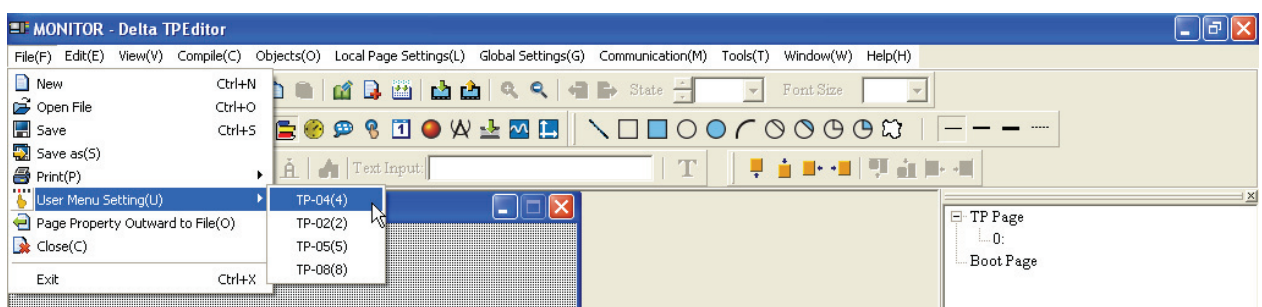
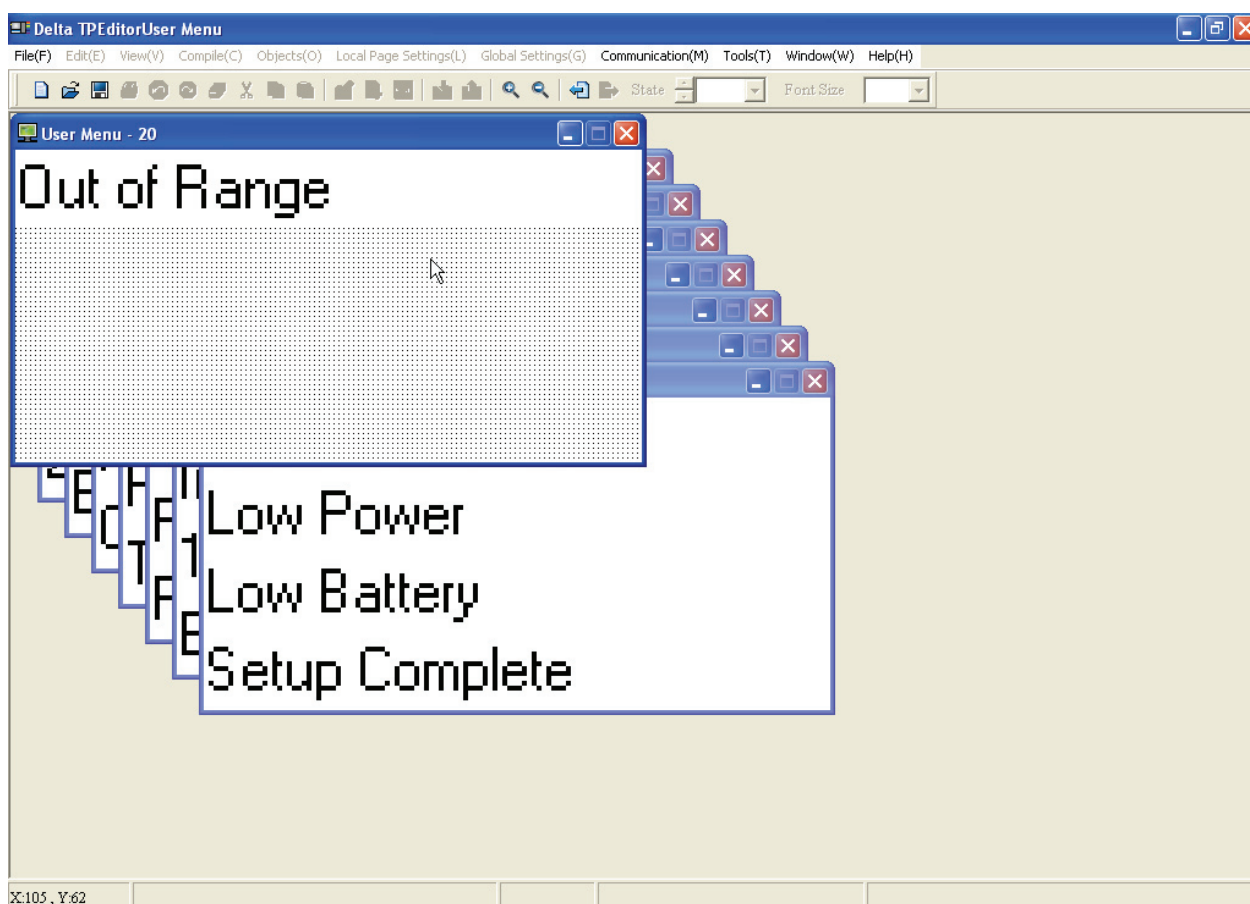

Figure 1-33
Figure 1-34
Step 1. Click **File (F) > User Menu Setting** and it will show TP-02, TP-04, TP-05 and TP-08 four options for selection (Figure 1-33). For example, if selecting TP-04, 21 screens which show the user menu settings will display for the users to edit immediately (Figure 1-34).